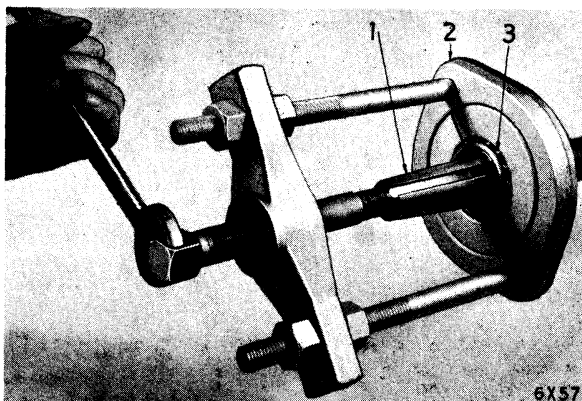

Fig. 8—Removing Bearing from Axle Drive Shaft
- (7) Remove bearings from the axle shafts, using bearing puller Tool C-293-C, as shown in Figure 8.